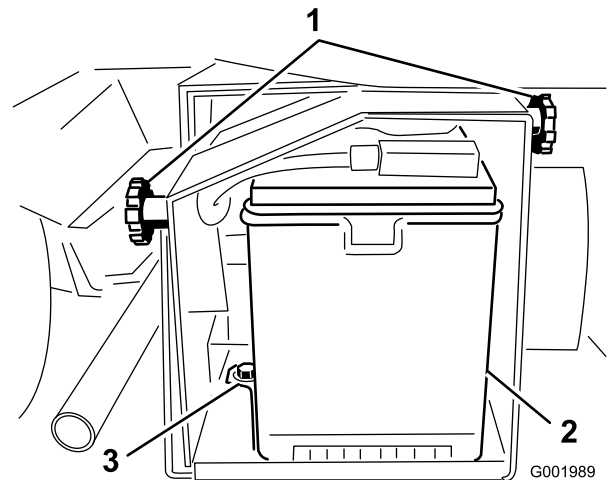

Figure 55
2. Loosen the knobs on the sides of the battery box and remove the battery cover (Figure 55).
5. Remove the battery retainer and fasteners (Figure 55).
2. Install the battery retainer and secure it with the fasteners you removed previously (Figure 55).
4. Install the battery cover and secure it with the 2 knobs (Figure 55).
1. Loosen the knobs on the sides of the battery box and remove the battery cover (Figure 55).